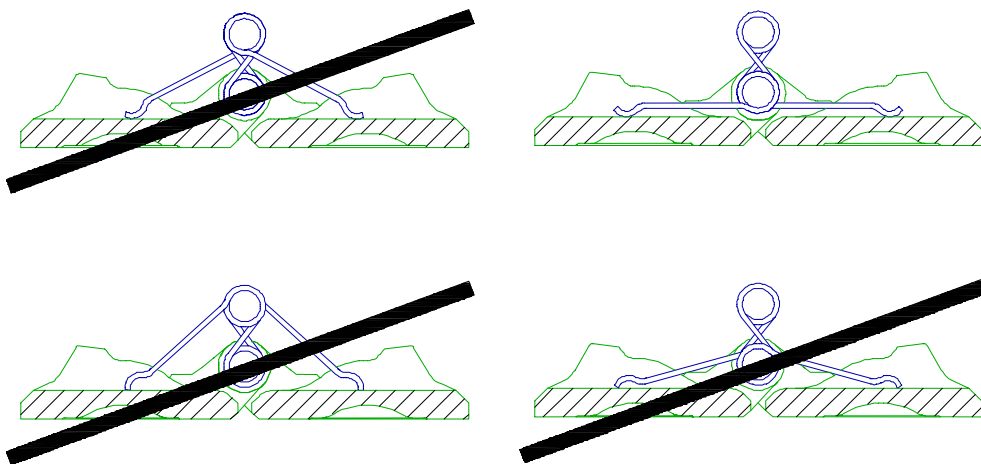

Figure 1
- 6.2.4 Lay the spring in the 'Vee' between the plates – See *Figure 1*.
- 6.2.5 Apply the force to the spring (BO4) to keep it in position and rotate the top leg through 180 degrees such that the "heel" of the leg remains nearest the discs (B02) through its movement – See *figure 1*.